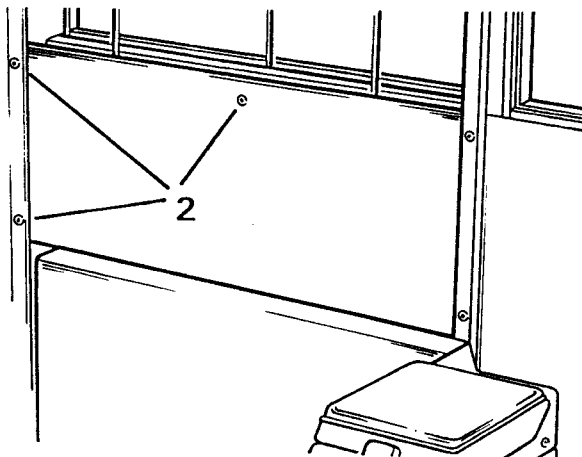

Figure 2
2. Drill out the five rivets and detach the division panel. See Figure 2.